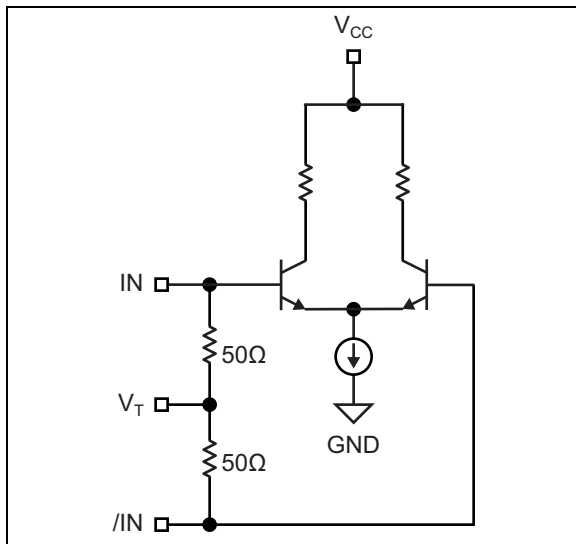

**FIGURE 5-1:** Single-Ended Voltage Swing.
**2:** See Figure 5-1 and Figure 5-2 for  $V_{OUT}$  and  $V_{DIFF\_OUT}$  definitions.